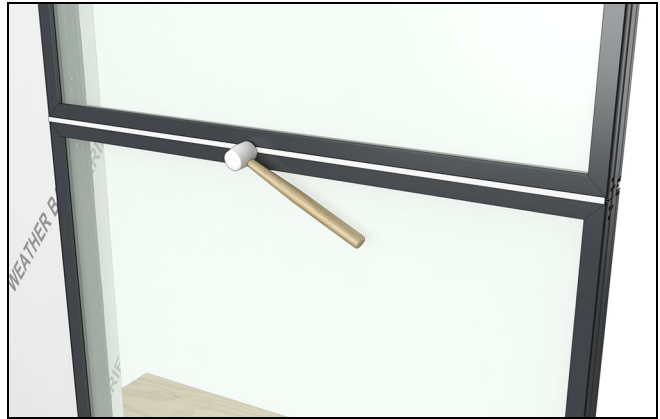

Figure 41
10. Install the exterior horizontal mull clip. See Figure 41.